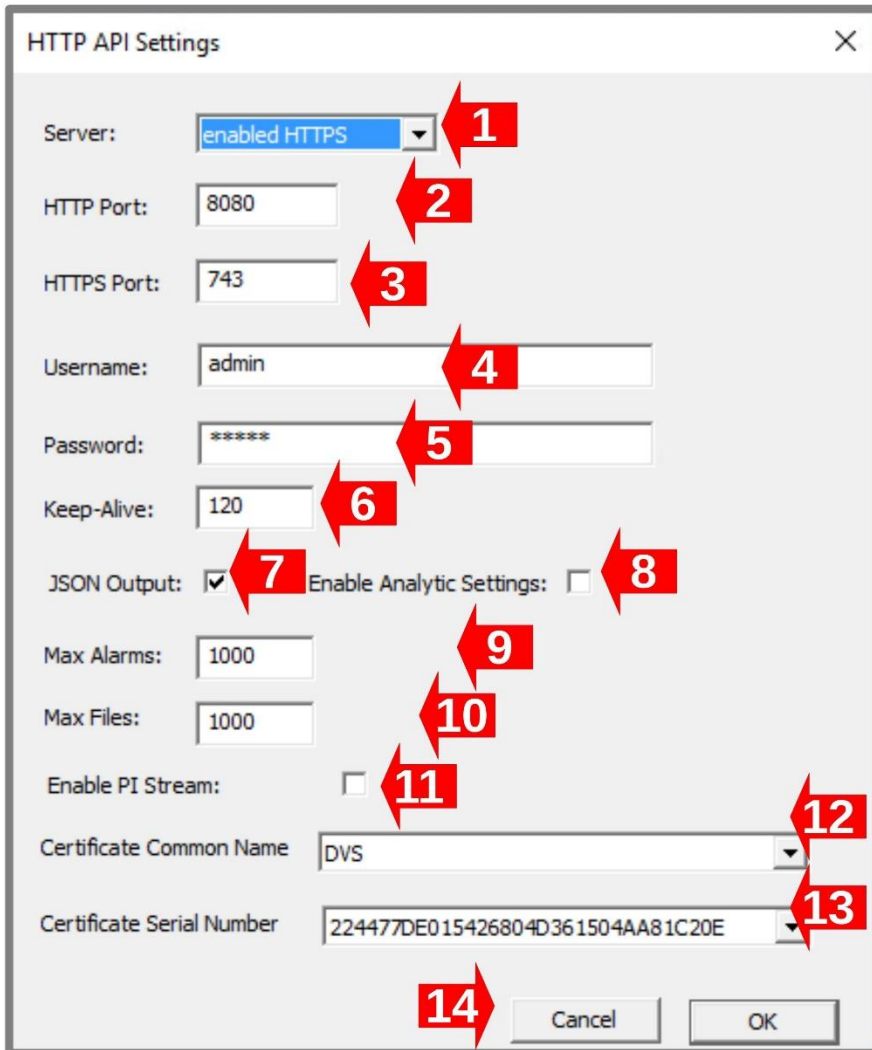

Figure 5-21 HTTPS API Settings
The dialog shown in Figure 5-21 is used to configure and enable the HTTP API settings on the DVS.
1. Server: Disabled, Enabled or Enabled HTTPS (shown in Figure 5-21)